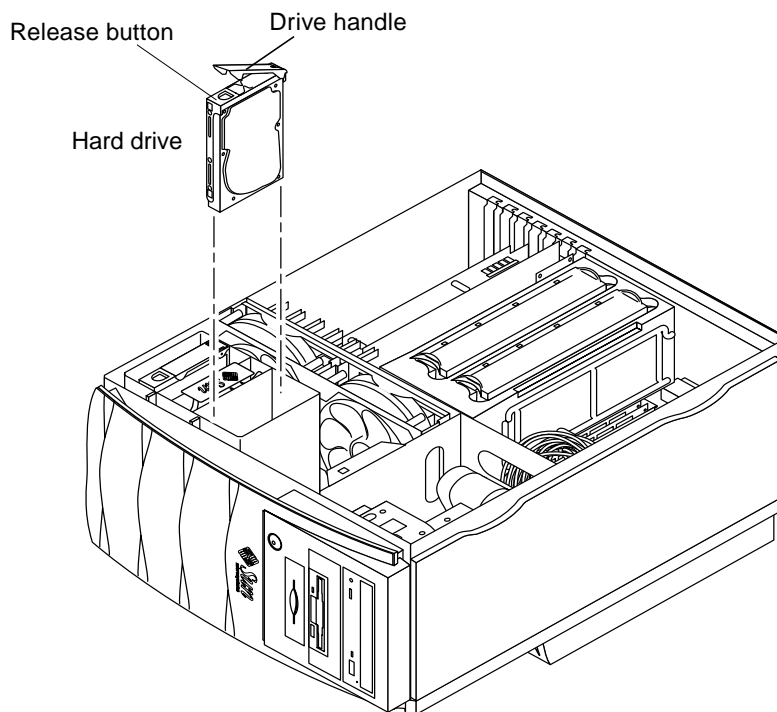

FIGURE 7-1 Removing and Replacing a Hard Drive
2. **Release the drive handle by pushing the handle release button toward the front of the chassis housing (FIGURE 7-1).**
1. **Holding the drive handle, insert the hard drive into the hard drive bracket along the vertical plastic guides until the hard drive handle starts to close (FIGURE 7-1).**